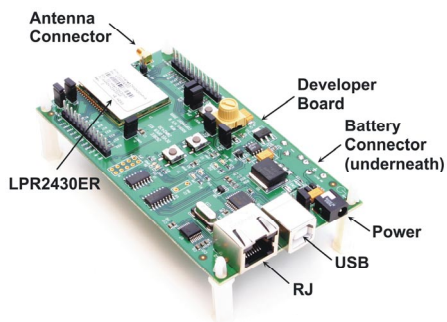

Figure 5.3.1
1. Observe ESD precautions when handling the LPR2430 series developer boards. The developer boards can be powered with either the 9 V wall-plug power supplies or the 9 V batteries. If using the wall-plug power supplies, install an AC plug on each supply and connect the power supplies to the developer boards. See Figure 5.3.1 for the location of the power connector. Do not plug in the power supplies at this time. If using the batteries, do not install them yet.
2. For the LPR2430 and LPR2430ER kits, referring to Figures 5.3.1 and 5.3.2, install a patch antenna on each developer board antenna connector. The antenna “snaps” onto the connector with moderate pressure. Antennas are built into the radio modules for the LPR2430A and LPR2430ERA kits.
3. As shown in Figure 5.3.1, there are two serial connectors on the developer boards. The RJ-45 connector or RJ-11 connector provides an RS232 interface. The USB connector provides an optional interface. Labels on the bottom of the boards indicate which board is the Base and which is the Remote.